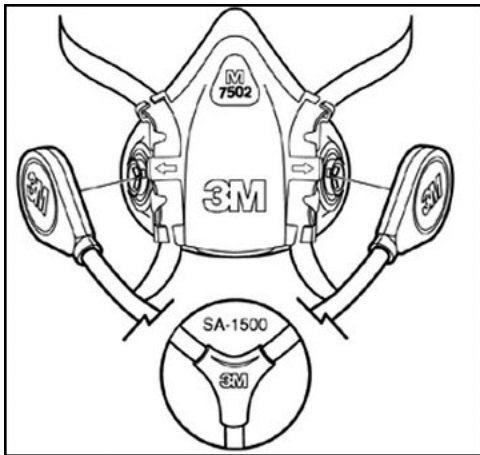

Fig. 6
- Hold the facepiece in front of you so that the 3M logo is facing you. Align the two branches of the breathing tube over the two bayonet mounts on facepiece. For the 3M™ SA-1500 or SA-1600 Breathing Tubes, make sure that 3M logo on breathing tube and on half facepiece are both facing towards you. For 3M SA-2500 *(07148) or SA-2600 *(37001) Breathing Tubes, make sure that the 3M logo on breathing tube is facing in opposite direction to 3M logo on half facepieces. (Fig. 6) 3M SA-1500/SA-2500 shown.